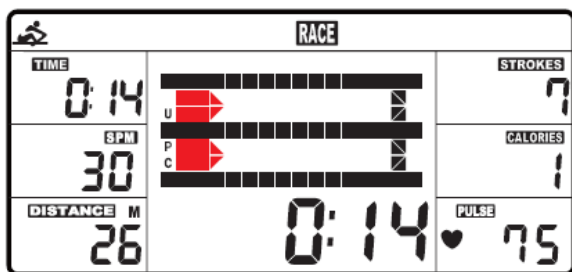
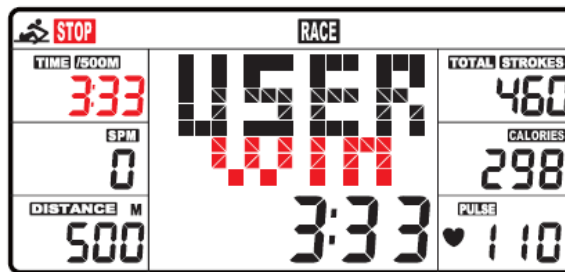

Fig. 6
Fig. 7
- A. Press START button to start and STOP will disappear. USER and PC will display in the matrix (Fig.6). The computer will stop when either user or computer has reached the race distance that was set. Then the matrix displays "PC WIN" or "USER WIN" (Fig.7).